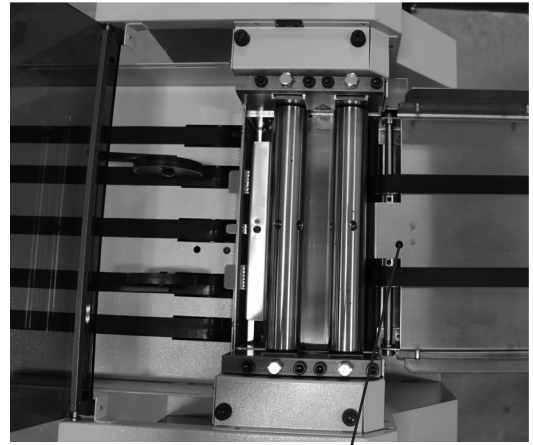

Fig. 34
2. Remove side spacer covers (Fig. 34).
5. Remove large roller drive pulley (Fig 34).
6. Remove the six (6) screws that hold the infeed ramp in position.